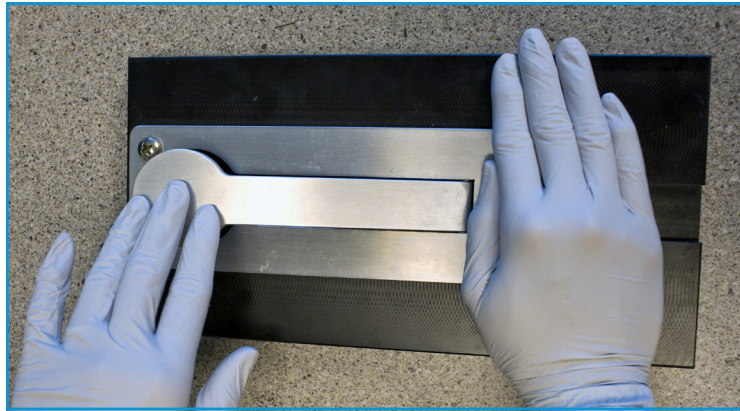

Figure 3-9: Hand position while opening puck
4. Place your other hand on the device lever. With a steady motion, push down on the lever. See Figure 3-9.